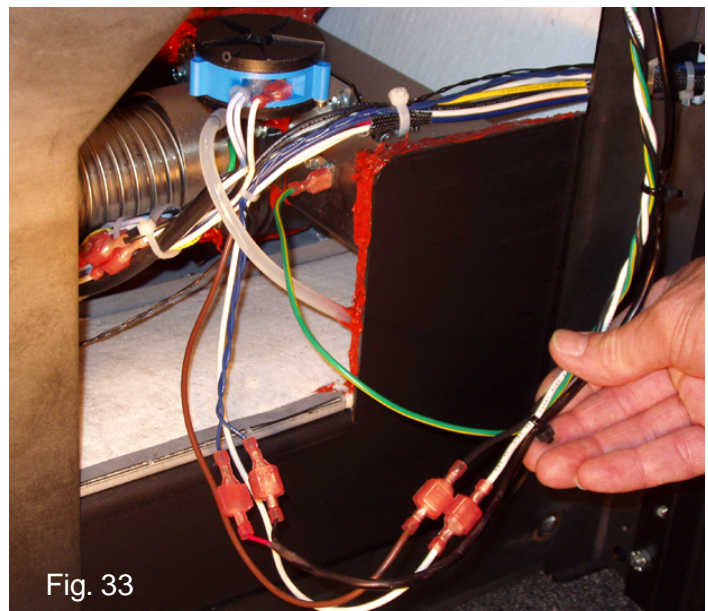

Fig. 33
17. Complete the following electrical connections (caution: Disconnect the power cord.) There are 5 connections that must be completed. See Fig. 33 & 34.